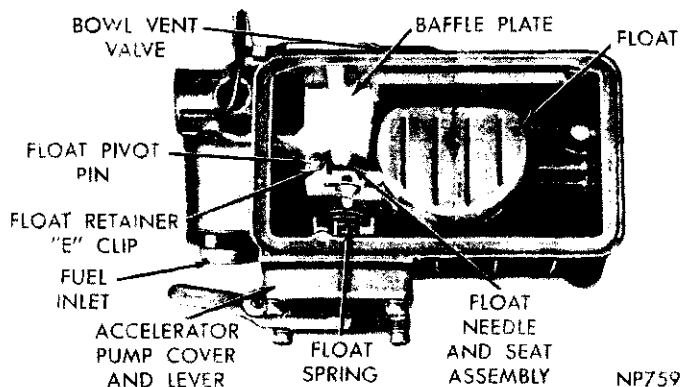

Fig. 6—Primary Fuel Bowl Assembly
(1) Remove primary bowl vent valve assembly (Fig. 6). On E.C.S., remove operating rod assembly.